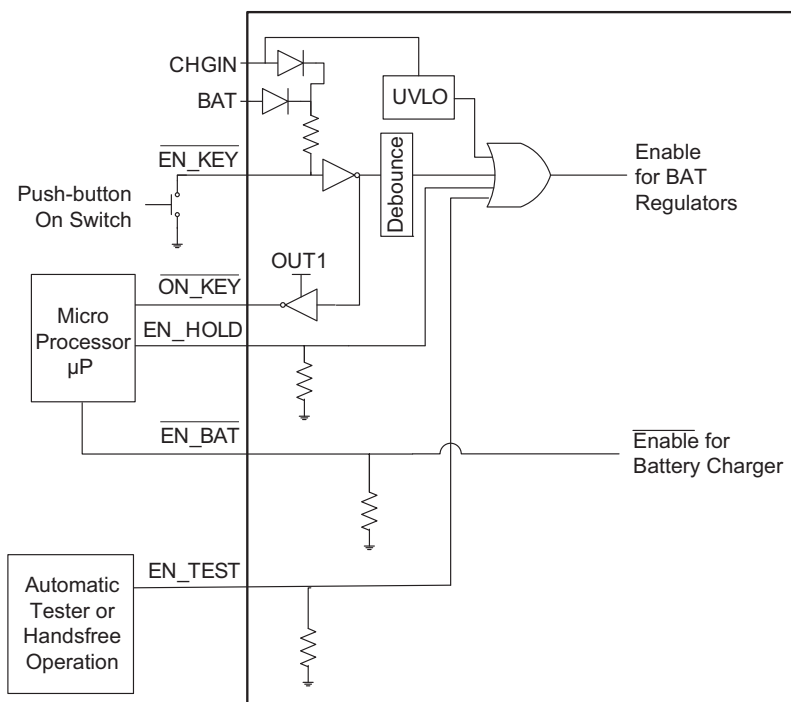

Figure 1: Enable Function Detailed Schematic.
The AAT3603 supports a variety of push-button or enable/disable schemes. A typical startup and shutdown process proceeds as follows (referring to Figures 1 and 2): System startup is initiated whenever one of the following conditions occurs:
The startup sequence for the AAT3603 core (Buck and LDO1) is typically initiated by pulling the EN_KEY pin low with a pushbutton switch, see Figure 1. The Buck (Core) is the first block to be turned on. When the output of the Buck reaches 90% of its final value, then LDO1 is enabled. When LDO1 (PowerDigital) reaches 90% of its final value, the 65ms RESET timer is initiated holding the microprocessor in reset. When the RESET pin goes High, the μ P can begin a power up sequence. After the startup sequence has commenced, LDO2 (PowerAnalog), LDO3 (TCXO), LDO4 (TX) and LDO5 (RX) can be enabled and disabled as desired using their independent enable pins, even while the Buck and LDO1 are still starting up. However, if they are shut down, then LDO2, LDO3, LDO4, and LDO5 cannot be enabled. The μ P must pull the EN_HOLD signal high before the EN_KEY signal can be released by the push-button. This procedure requires that the push-button be held until the μ P assumes control of EN_HOLD, providing protection against inadvertent momentary assertions of the pushbutton. Once EN_HOLD is high the startup sequence is complete. If the μ P is unable to complete its power-up routine successfully before the user lets go of the push-button, the AAT3603 will automatically shut itself down. (EN_KEY and EN_HOLD are OR'd internally to enable the two core converters.)